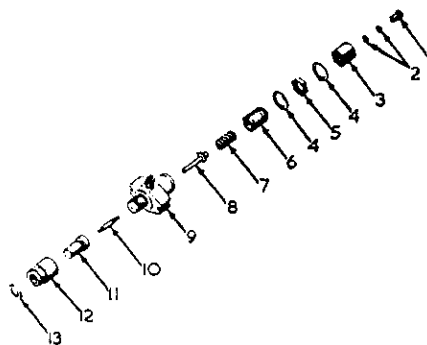
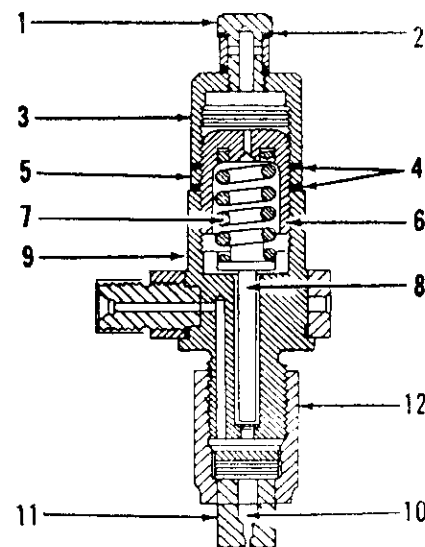

Fig. 52—Exploded view of injector nozzle and holder. Refer to Fig. 53 for a cross-sectional view.
Fig. 53—Cross-sectional view of injector nozzle and holder assembly. Refer to Fig. 52 for an exploded view.
95. OPENING PRESSURE. While operating the tester lever, observe the gage pressure at which the spray occurs. The gage pressure should be 2130-2205 psi for models with pneumatic governor, or 2350-2425 for models with mechanical governor. On Series B-275 or B-414 injectors, if pressure is not as specified remove cap nut (3—Fig. 52) and loosen locknut (5). Turn adjusting screw (6) either way, as required, to correct opening pressure. Refer also to Fig. 53.
Wipe all dirt and loose carbon from the nozzle and holder assembly with a clean, lint free cloth. Carefully clamp nozzle holder assembly in a soft jawed vise and remove the cap nut (3—Fig. 52 or 54). On Series B-275, B-414, 424, 444, 2424 and 2444, loosen jam nut (5—Fig. 52) and back-off the adjusting screw (6) enough to relieve load from spring (7). On Series 354, 364 and 384, back-off spring cap (4—Fig. 54) to relieve load from spring (7).
On all series remove the nozzle cap nut (12—Fig. 52 or 54) and nozzle body (11). Normally, the nozzle valve (10) can be easily withdrawn from the nozzle body. If the valve cannot be easily withdrawn, soak the assembly in fuel oil or carbon solvent to facilitate removal. Be careful not to permit the valve or body to come in contact with any hard surface.
101. OVERHAUL OF NOZZLE HOLDER. On Series B-275, B-414, 424, 444, 2424 and 2444, refer to Fig. 52 and remove cap (3). Remove jam nut (5) and adjusting screw (6). Withdraw spring (7) and spindle (8). On Series 354, 364 and 384 refer to Fig. 54 and remove cap (3). Remove spring cap (4) and shims (6). Withdraw spring (7) and spindle (8).